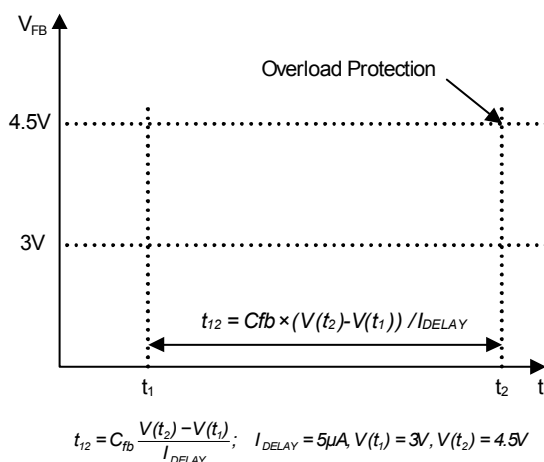

Figure 18. Overload Protection (OLP)
4.1 Overload Protection (OLP): Overload is defined as the load current exceeding a pre-set level due to an unexpected event. In this situation, the protection circuit should be activated to protect the SMPS. However, even when the SMPS is operating normally, the overload protection (OLP) circuit can be activated during the load transition. To avoid this undesired operation, the OLP circuit is designed to be activated after a specified time to determine whether it is a transient situation or a true overload situation. If the output consumes more than the maximum power determined by I_{LIM} , the output voltage (V_O) decreases below its rating voltage. This reduces the current through the opto-coupler LED, which also reduces the opto-coupler transistor current, thus increasing the feedback voltage (V_{FB}). If V_{FB} exceeds 3V, the feedback input diode is blocked and the 5μA current source (I_{DELAY}) starts to charge C_{FB} slowly up to V_{CC} . In this condition, V_{FB} increases until it reaches 4.5V, when the switching operation is terminated, as shown in Figure 18. The shutdown delay time is the time required to charge C_{FB} from 3V to 4.5V with a 5μA current source.